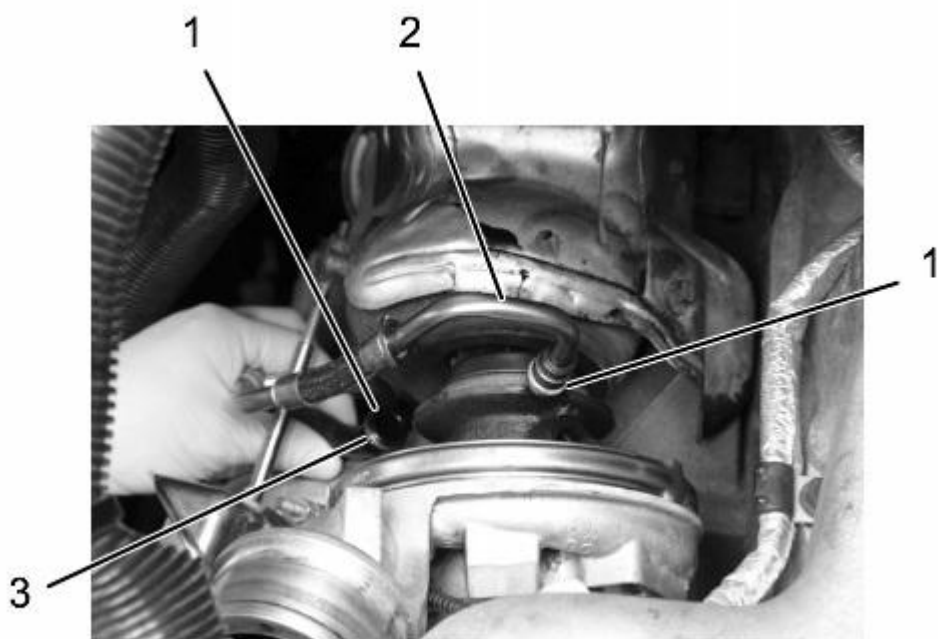

**Figure 10. O-rings.**
- 1. O-ring (2)
26. Remove HP turbocharger oil drain O-ring (Figure 10, Item 1). Discard O-ring.
2. Install new O-ring (Figure 10, Item 1) onto oil drain tube (Figure 10, Item 3).
3. Install new O-ring (Figure 10, Item 1) onto oil supply tube (Figure 10, Item 2).